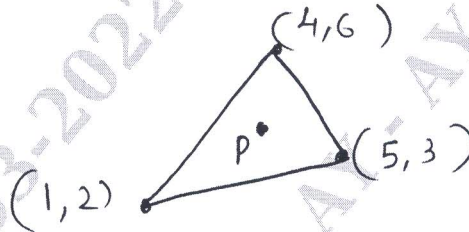

Fig.Q5(b)
b. The natural coordinates of a triangular element are shown in Fig. Q5(b). The x – coordinate of interior point P is 3.3 and shape function $N_1 = 0.3$. Find N_2, N_3 and y co-ordinate of point P.